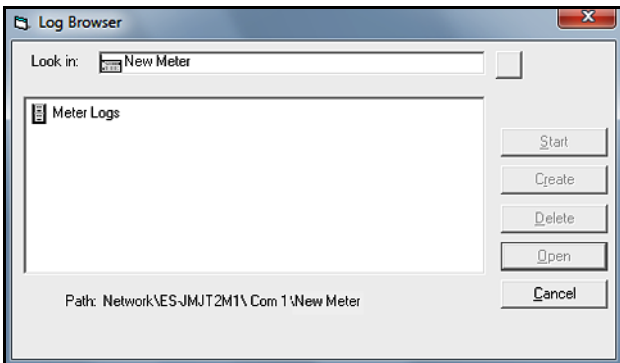

Figure 65: Log Type Selection
- c. Double click on the *meter name* to move to the network level shown in *Figure 65* below